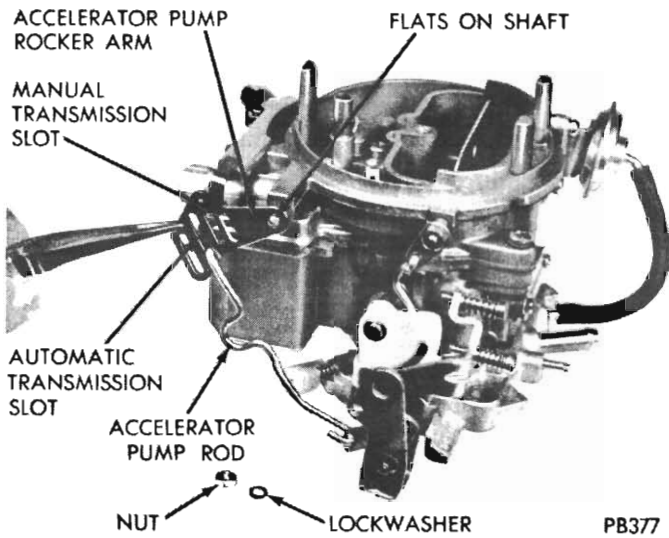

Fig. 2 - Removing or installing accelerator pump rocker arm
(2) Remove nut and washer attaching accelerator pump rocker arm to accelerator pump shaft. Remove arm from flats on pump shaft, then disengage accelerator pump rod from centre slot in arm and from hole in throttle lever (Fig. 2).